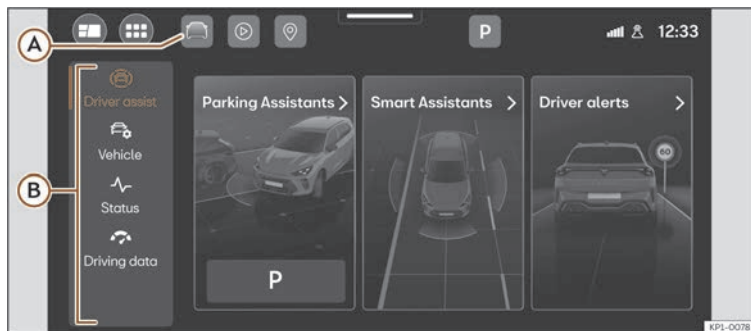

Fig. 15 Schematic representation: Assistants and vehicle settings
Press >>> **Fig. 15** (A), or **Vehicle** in the main menu to open the assistants and vehicle settings menu. Next, clicking on any of the menus located in the left area (B), displays the settings menu or the selected assist systems on the display.